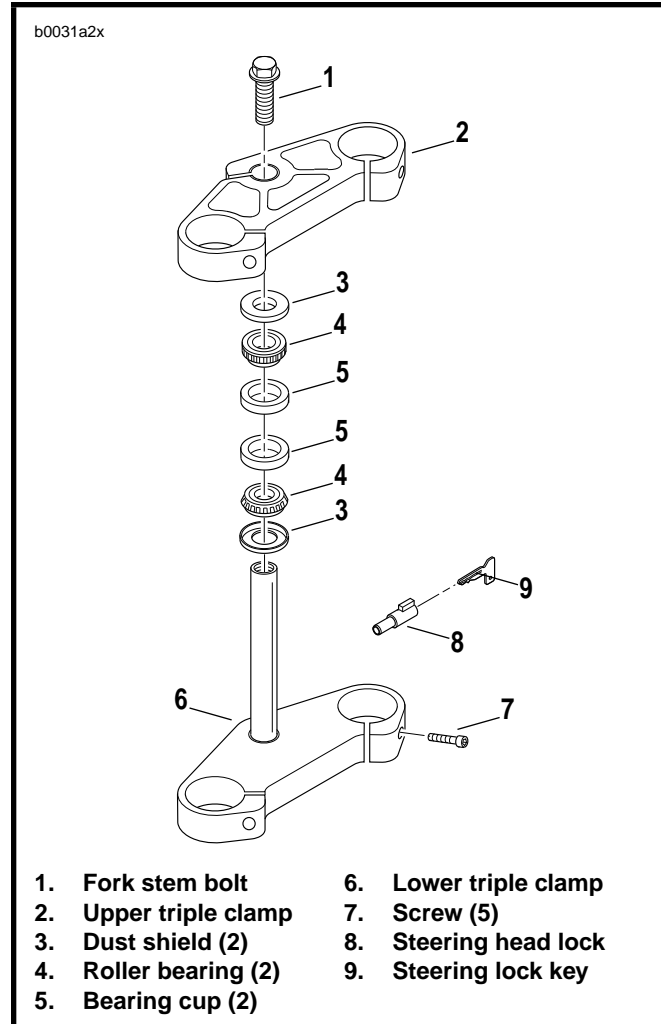

Figure 2-36. Bearing Cup Removal
2. See Figure 2-36. Remove fork stem bolt (1) and upper triple clamp (2).
3. Remove upper dust shield (3) and upper roller bearing (4).
4. Lower the lower triple clamp (6). The lower bearing cone is a press fit on fork stem. Chisel through outer bearing cage to allow rollers to fall free. Apply heat to remove the remaining portion of bearing cone. Continuously move flame around its entire circumference until bearing falls free. Remove lower dust shield (3).
5. If replacement of bearing cups (5) is necessary, drive cups from steering head using STEERING HEAD BEARING RACE REMOVER (Part No. HD-39301A) and UNIVERSAL DRIVER HANDLE (Part No HD-33416).
1. See Figure 2-36. Clean the dust shields (3), bearing cups (5), fork stem and lower triple clamp (6) and frame with solvent.
3. Check the fork stem and lower triple clamp (6) for damage. Replace damaged fork stem.
1. See Figure 2-36. If removed, install **new** bearing cups (5) into frame steering head using STEERING HEAD BEARING RACE INSTALLER (Part No. HD-39302).
2. Liberally coat the bearing cones (4) with grease using WHEEL BEARING PACKER TOOL (Part No. HD-33067). Work the grease into the rollers.
3. Place lower bearing dust shield (3) over fork stem. Find a section of pipe having an inside diameter slightly larger than the outside diameter of the fork stem. Press bearing cone (4) onto fork stem and bracket (1) using the pipe as a press on tool.
4. Insert lower triple clamp (6) through the steering head. Install the upper bracket bearing (4) and dust shield (3) onto fork stem.